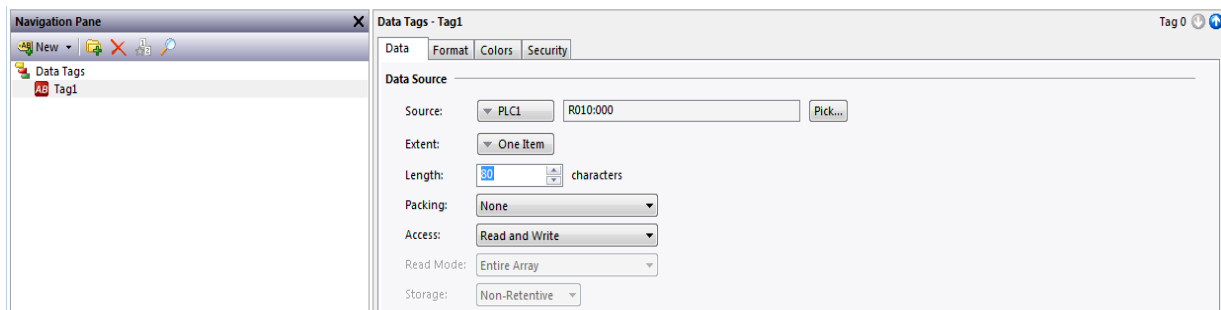

Figure 7.
- After mapping the Crimson tag to the String register, the Length parameter MUST be set to 80 characters, as shown in Figure 7.